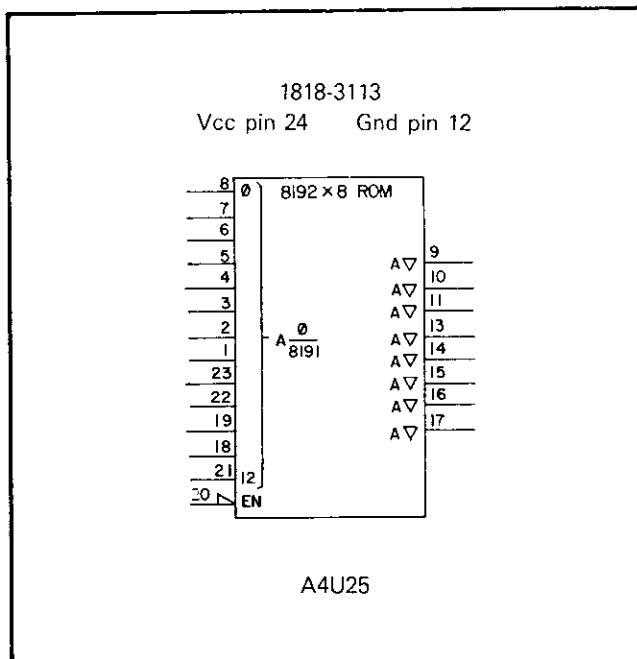
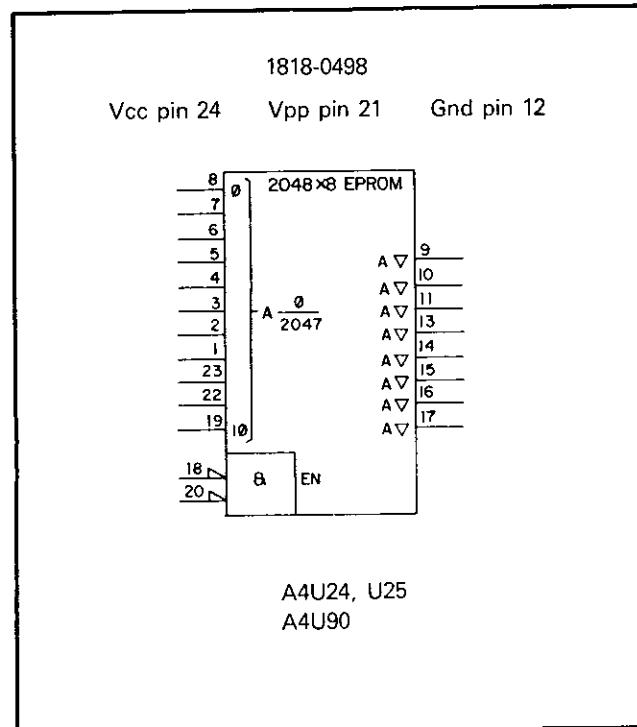

Figure B-29. Read Only Memory (ROM)
Figure B-30. Erasable Programmable Read Only Memory (EPROM)
**Read Only Memory (ROM)**. Figure B-29 shows a ROM with 8-bit word length and 8192 addressable memory locations. Figure B-30 shows an erasable programmable read only memory (EPROM) with 2048 memory locations. Each device has three-state outputs controlled by an enable input. The EPROM has an additional bias voltage input used for programming.